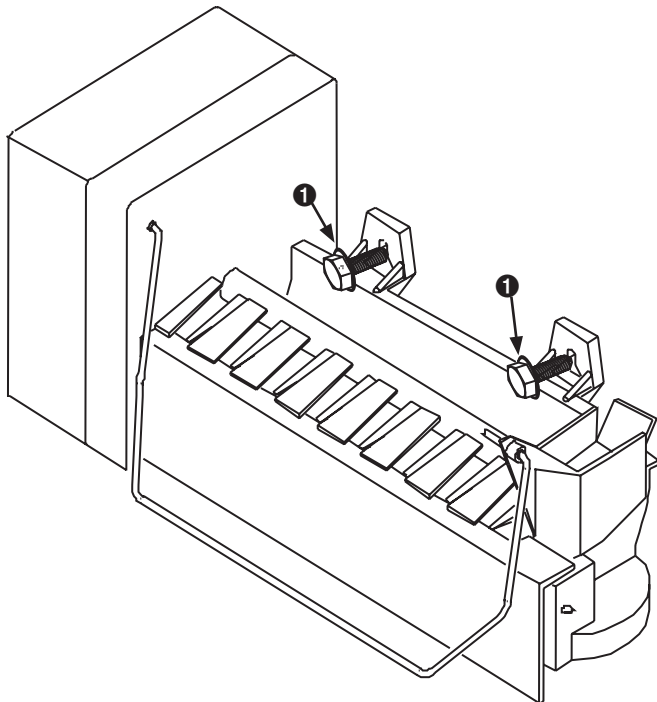

Figure 9-17.—Ice maker fasteners and back plate.
4. Remove two ice maker mounting screws. Shown in Figure 9-17, ①.